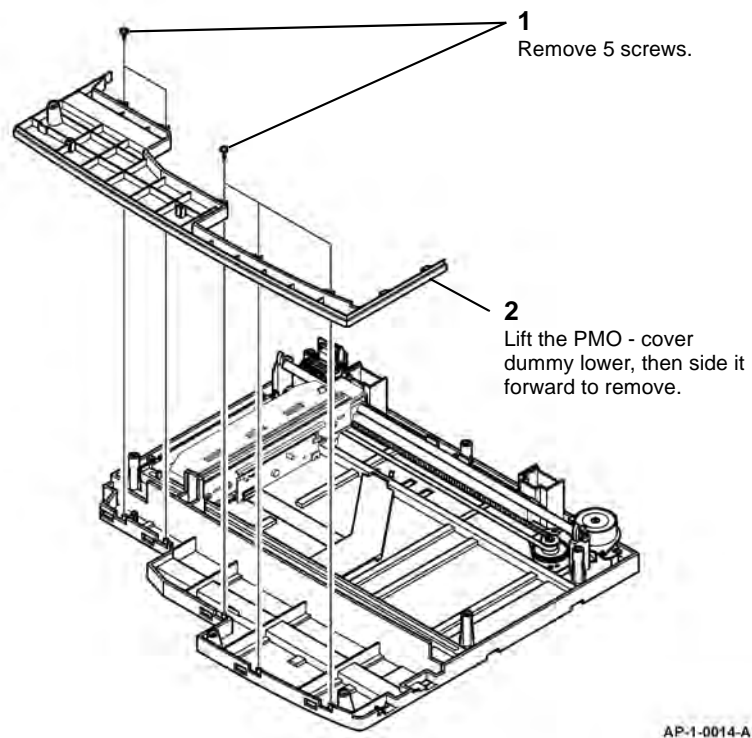

Figure 12 PMO - cover dummy lower removal
14. Remove the PMO - cover dummy lower, Figure 12.